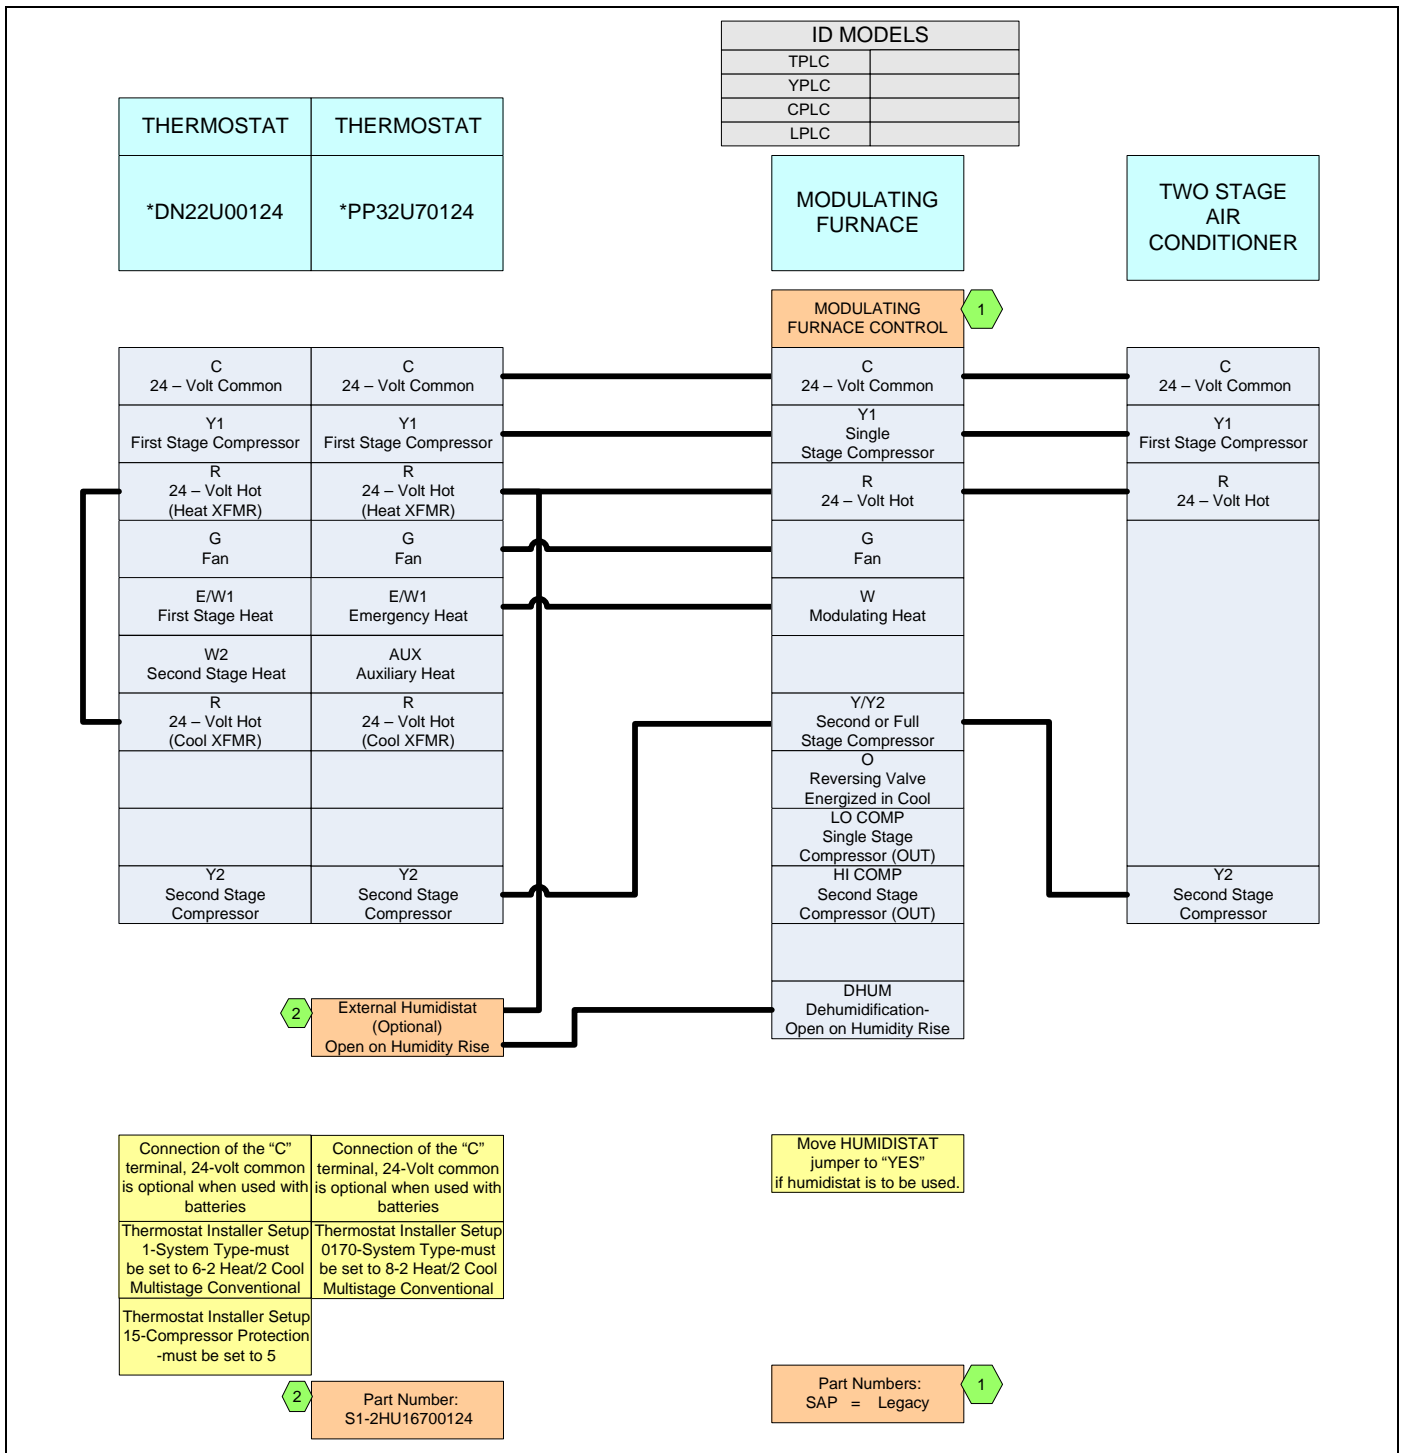

FIGURE 22: Thermostat Chart - Two Stage Air Conditioner – Variable Speed or PSC Modulating Furnace
Install the field-supplied thermostat by following the instructions that come with the thermostat. With the thermostat set in the OFF position and the main electrical source disconnected, connect the thermostat wiring from the wiring connections on the thermostat to the terminal board on the ignition module, as shown in Figures 21-26, Thermostat Charts. Electronic thermostats may require the common wire to be connected as shown in Figures 22 - 26. Apply strain relief to thermostat wires passing through cabinet.
**For Two-Stage A/C** - Use a two-stage thermostat, connect the low voltage wiring as shown in Figure 22, Thermostat Chart.